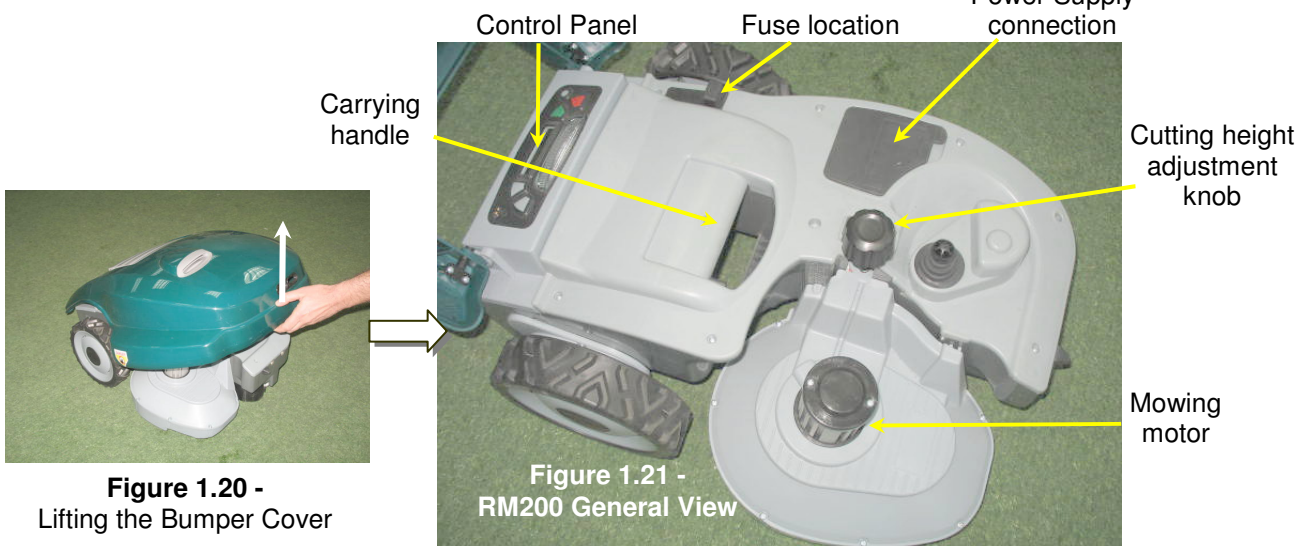

Figure 1.20 -
- Lift the Bumper Cover from the front side of the Robomow (figure 1.20).